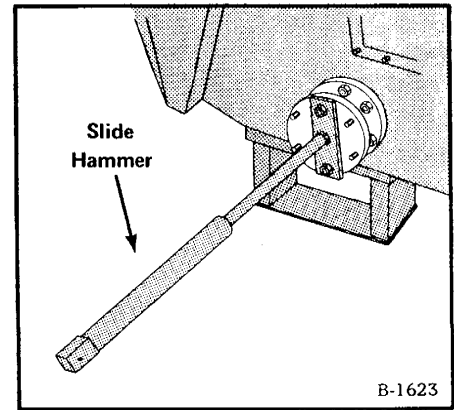
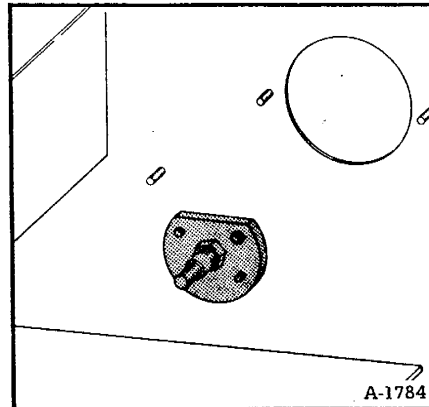

Fig. 4-30 Axle Removal
Fig. 4-31 Axle Guide Tool
(9) Remove the inner and outer axle housing nuts. Use a slide hammer to loosen the inside bearing (Fig. 4-30).
(10) After the inner housing and bearing has been removed, install the outer housing again and fasten with two of the nuts.
(11) Straighten the flat washer between the axle nut and the sprocket and install the rear guide tool. Fasten it with two nuts (Fig. 4-31).